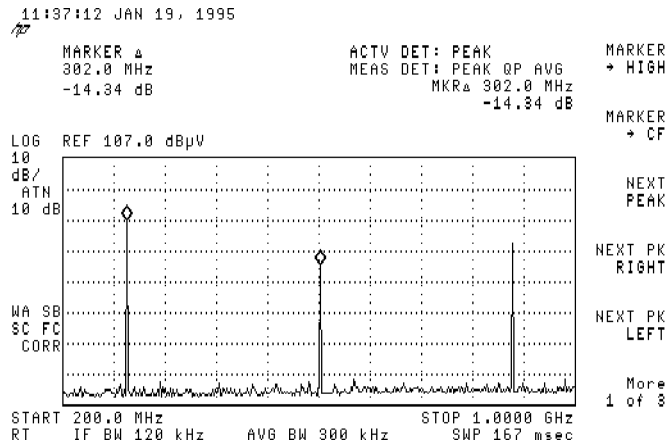

Figure 7-23. Using the marker delta function.
- The amplitude and frequency difference between the markers is displayed in the active function block and in the Marker Box. Refer to Figure 7-23.